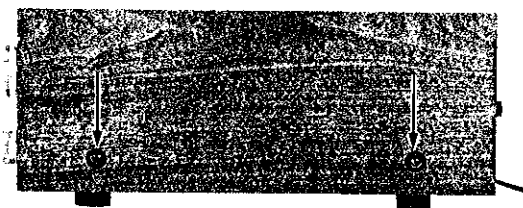

Figure B2
- b) Remove two screws from each side of the Cabinet (Figure B2) and pull off Cabinet toward rear of unit. Be careful not to lose the screw inserts when the screws are removed.